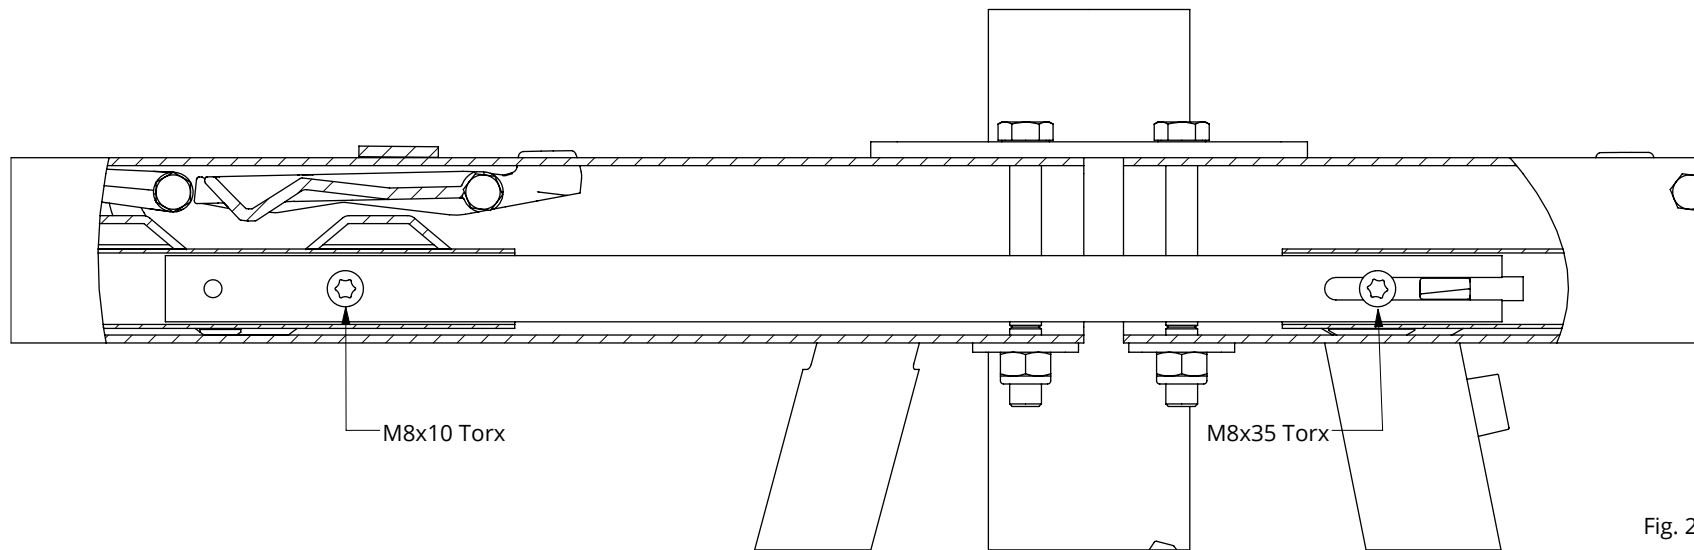

Fig. 2
4. Push back the rail to the left, so far the threaded hole of the connecting strip appears in line with the hole in the feed front (fig 2). At this place the included M8x10 torx bolt should be